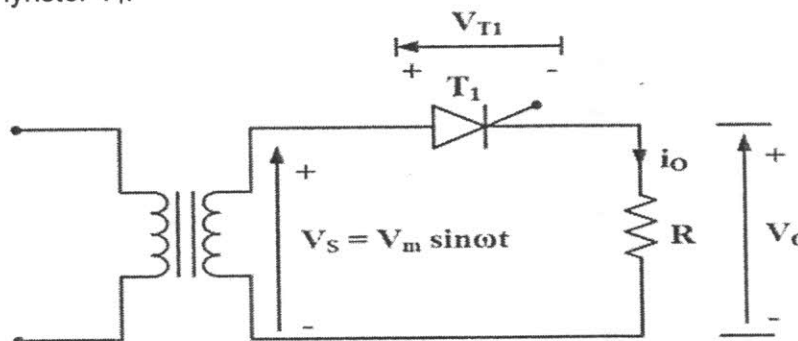

Figure Q.5.a
- If the converter shown in Figure Q.5.a has a purely resistive load of R and the delay angle is $\alpha = \pi/4$, determine a) rectification efficiency, b) form factor, FF, c) ripple factor, RF, d) transformer utilization factor, TUF, and e) peak inverse voltage, PIV, of the thyristor T_1 .